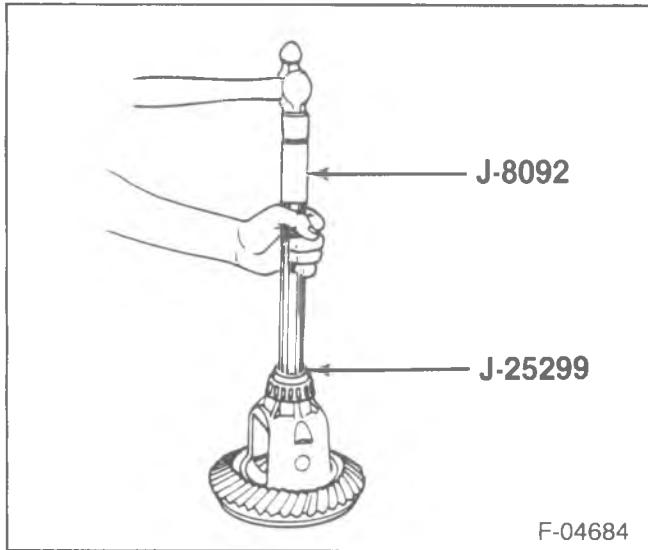

Figure 12—Side Bearing Installation
- 8. New ring gear bolts (25).
9. Differential side bearings (22) using J-25299, J-8092, and J-8107-2 (figure 12).
- 10. Differential case (24) to the axle housing. Refer to "Side Bearing Pre-Load Adjustment" in this section.